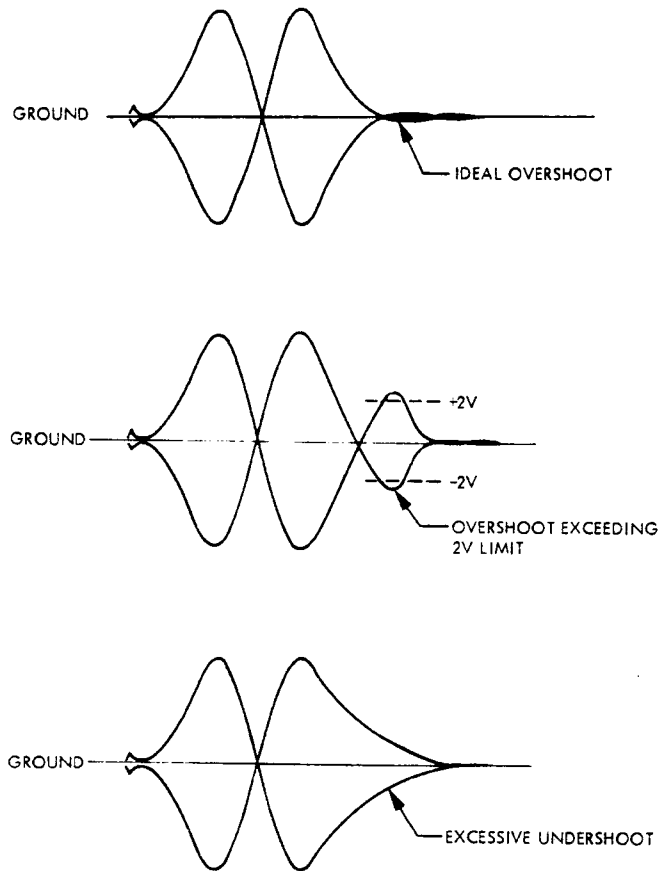

Figure 6-12. X + 0 Waveforms 000—001 Repetitive Track Seek (TP20)
- (1) Observe the waveforms at TP20; refer to Figure 6-12.
- (2) If overshoot exceeds  $\pm 2V$ , or excessive undershoot is evident, perform Overshoot Adjustment detailed in Paragraph 6.9.7.
- (3) While adjusting R79 for minimum overshoot (Figure 6-12), ensure that the positive peak of the waveform at TP2 is  $>+4v$  and that the negative excursion is  $>-2v$  (Figure 6-8).